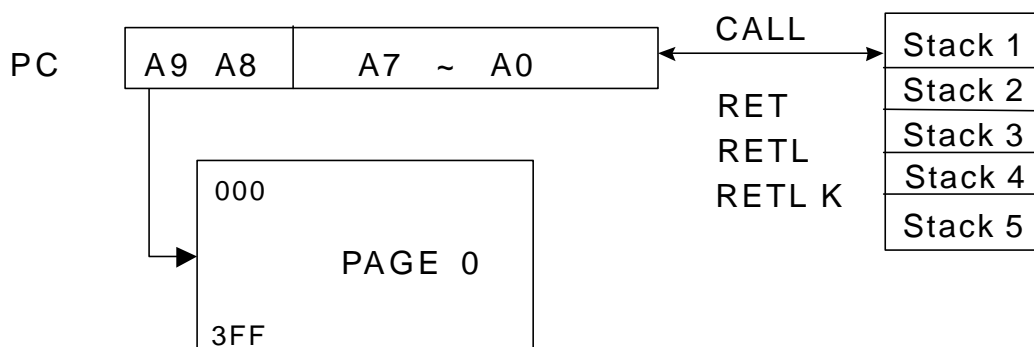

Fig. 3 Program Counter Organization
- Depending on the device type, R2 and hardware stack are 10-bit wide. The structure is depicted in Fig.3.